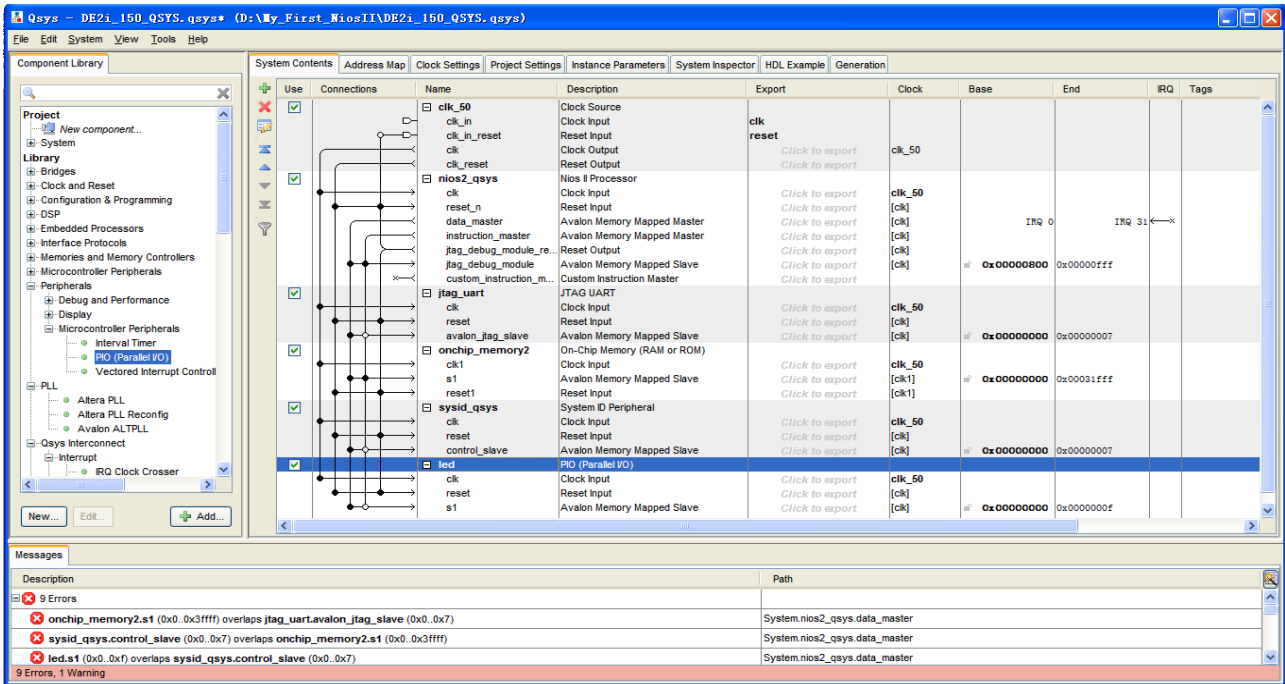

Figure 1-41 Connect PIO
26. Connect the **clk** and **clk\_reset** and **data\_master** as shown in Figure 1-41.